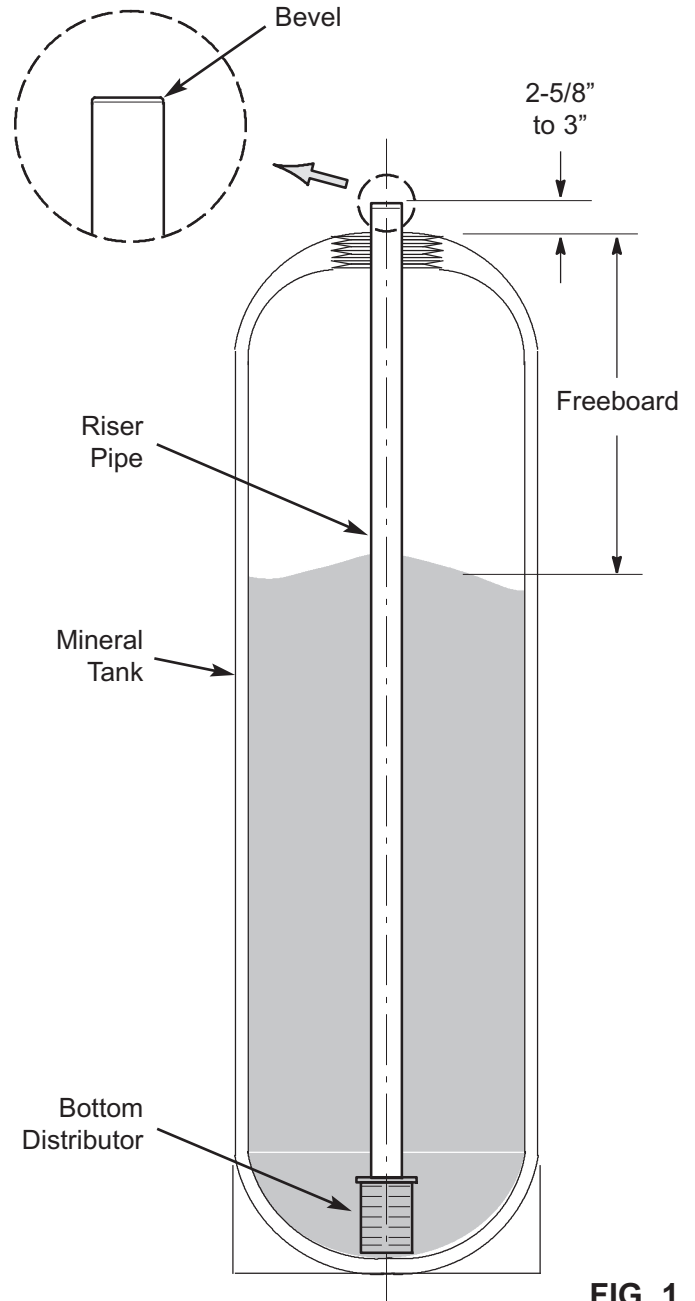

FIG. 1
2. On all models, place the bottom distributor into the resin tank and center it. Check the distributor length, as shown in Figure 1, and adjust it as needed. **It must extend between 2-5/8" and 3" above the top of the tank.** Cut end square using a hacksaw or pipe cutter. Bevel the top edge and smooth with sandpaper or a file. Tip the distributor upside-down and tap gently to remove plastic shavings from inside.